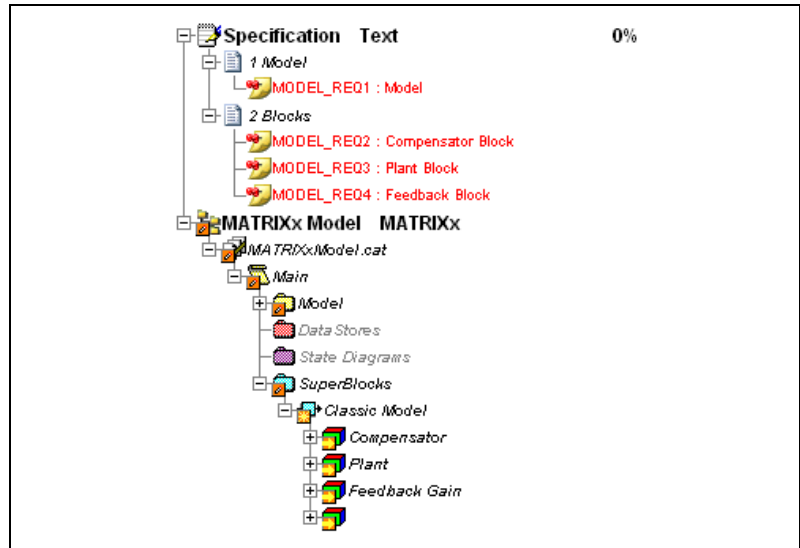

Figure 8-1. MATRIXx Document in Project
17. Expand the contents of the two documents in the Management View as shown in Figure 8-1. Requirements Gateway displays the superblocks under the MATRIXx Model document.